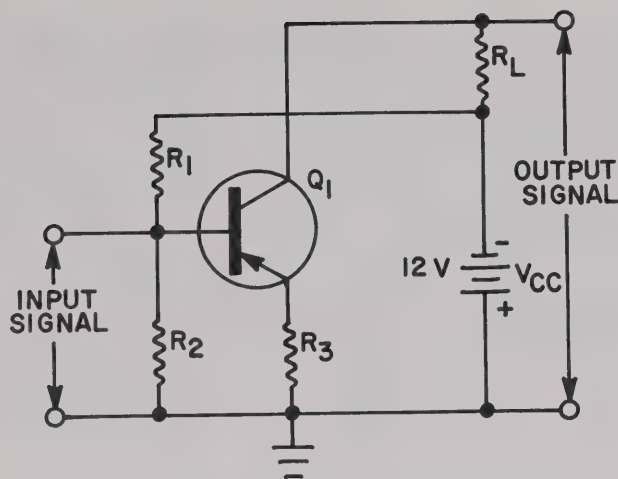
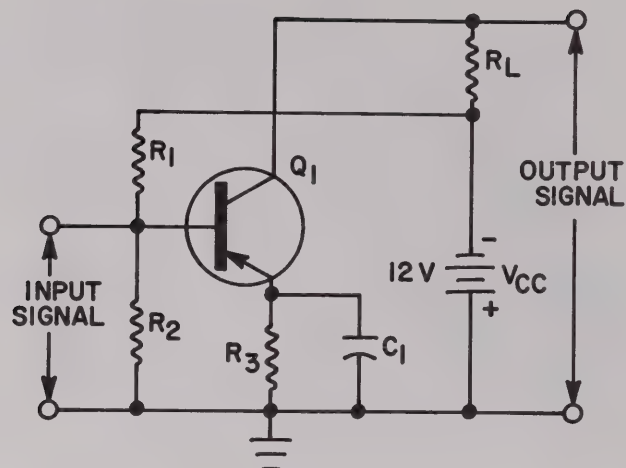

Figure 12
Figure 13
Figure 12 shows an amplifier with voltage divider bias and degenerative current feedback. R_1 and R_2 provide voltage divider bias, and R_3 provides the current feedback. The amount of feedback provided by R_3 is determined
The negative feedback is produced because of the voltage drop developed across R_3 . The signal at the base of Q_1 causes signal current through the transistor. The resultant signal voltage across R_3 is in phase with the signal at the base. This causes feedback whose amount is proportional to the resistance value of R_3 . The voltage drop developed across R_3 is also proportional to the amount of collector current, and this drop therefore serves to limit, or regulate, collector current. Therefore, the amplifier of Figure 12 requires a larger input signal for a given output signal than does the amplifier of Figure 8.
If the negative feedback provided in the circuit of Figure 12 is not required, the arrangement shown in Figure 13 may be used. The circuit of Figure 13 is the same as the circuit of Figure 12, except that capacitor C_1 is placed in parallel with R_3 . This is done to prevent the voltage across R_3 from varying with the input signal, so that the voltage gain is now substantially increased. For low-frequency signals, the reactance of C_1 is so low that it effectively bypasses the collector signal current variations of the amplifier.
The voltage gain of the circuit of Figure 13 is approximately equal to R_L divided by R_3 . For example, if R_L is 2200 ohms and R_3 is 220 ohms, then:
23. In Figure 13, if R_L is $10\text{ k}\Omega$ and R_3 is 2700Ω , what is the voltage gain?
24. Draw a circuit similar to the one shown in Figure 13 for an NPN transistor.
25. An increase in the voltage developed across R_3 in Figure 13 increases forward bias on the emitter junction. True or False?